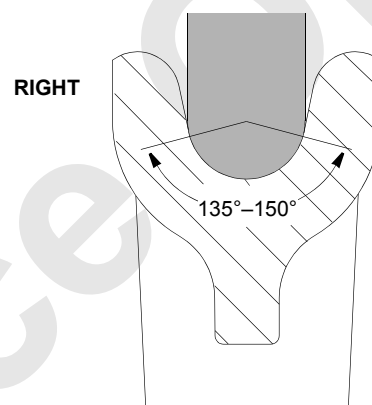

FIGURE 5-26
3. For steel sheaves, check depth, width, and contour of each sheave using a groove gauge as shown in Figure 5-26. Replace sheaves that have over or under size grooves.